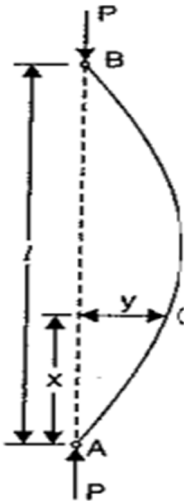

Figure Q4(b)
- b) A column, AB, hinged at both of its ends A and B, and of length l and uniform cross-sectional area, is subjected to an axial compressive load, P , as shown in Figure Q4(b). The load is increased until the column just buckles, and deflects into a curved form ACB. If the lateral deflection at a distance x from the end A is y , show that the crippling load, P is given by: